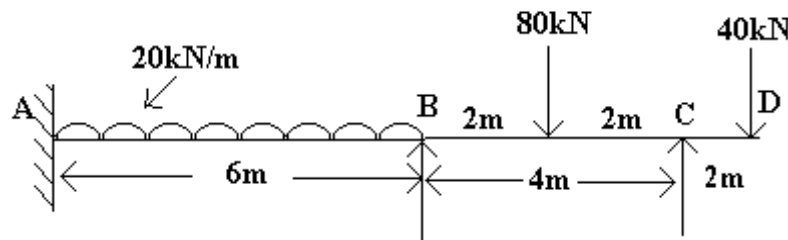

Figure 1:
5. During loading the support C of the continuous beam shown in Figure 1 sinking by 10mm . Obtain the support moments by the slope deflection method and sketch the B.M.D. ($E = 200 \text{ GN/m}^2$ and $I = 100 \times 10^{-6} \text{ m}^4$) [16]